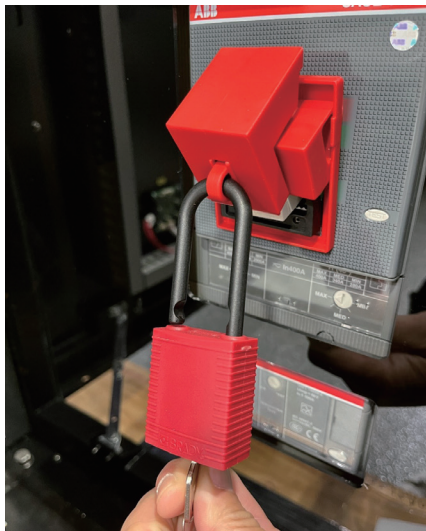
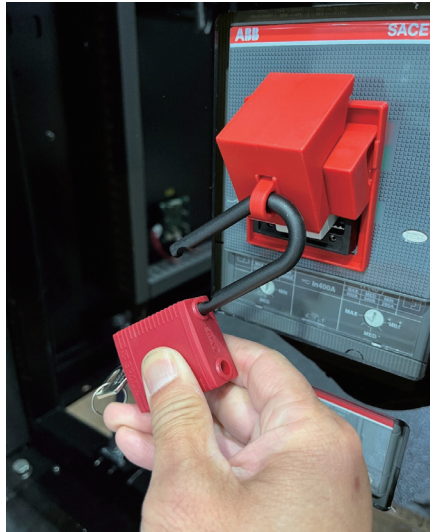

Figure 25. Breaker Unlock
Figure 26. Lock Removal
2) Turn the lock key to unlock and remove the lock. See Figure 25 and Figure 26.